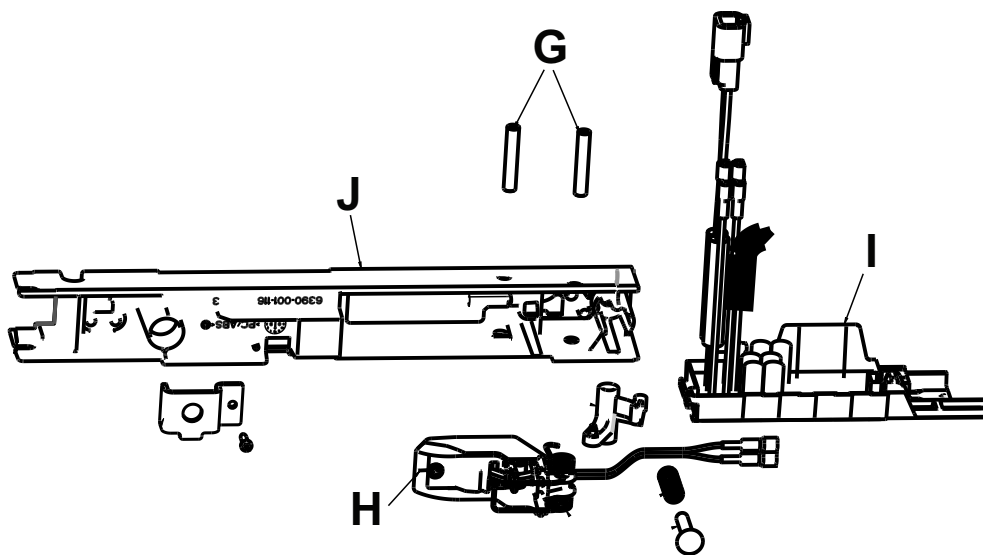

Figure 49 – Unplug coil wires from the inductive primary board
12. Remove the anchor pivot pin (G) that holds the anchor coil assembly (H) to the anchor housing (J) (Figure 49). Save the pin.
13. Unplug the coil wires from the inductive primary board (I) (Figure 49). Discard the anchor coil assembly.